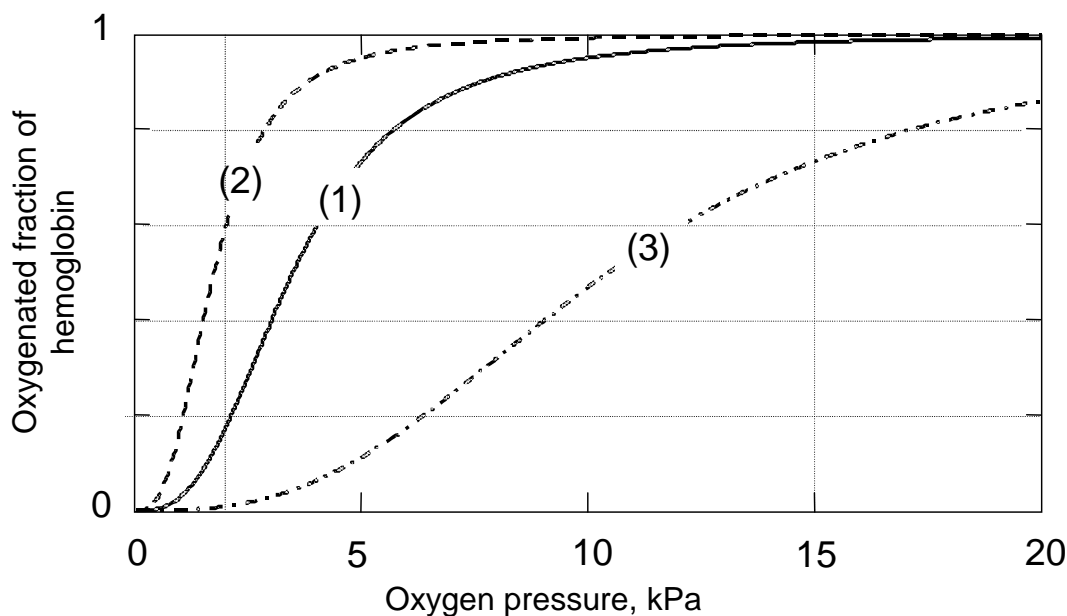

Figure 1
Each Hb molecule can take up four molecules of O2. Blood in contact with O2 absorbs a fraction of this amount, depending on the oxygen pressure, as shown in Figure 1 (curve 1). Also shown are the curves (2) and (3) for blood with two kinds of deficient Hb. These occur in patients with certain hereditary diseases.
- 1.2 Estimate from Figure 1 (to 2 significant figures) how many moles of  $\text{O}_2$  are deposited in muscle tissue when one mole of Hb travels from the lungs to the muscles and back again for the three different types of Hb.